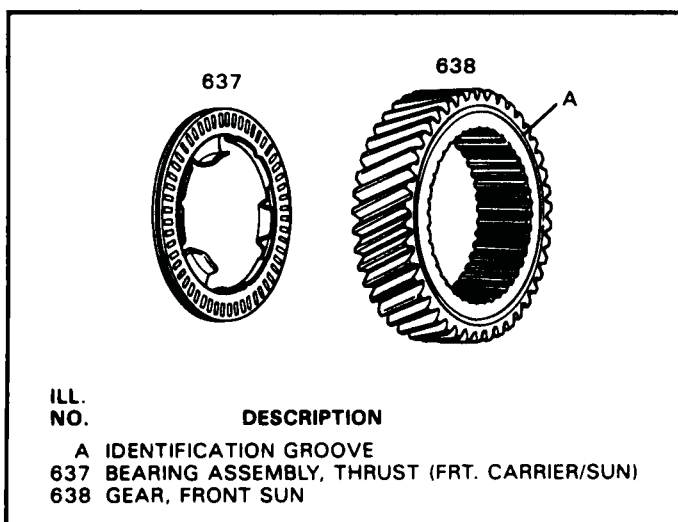

Figure 79
44. Install the front sun gear onto the splines with identification groove against the snap ring. (See Figure 79).
45. Install thrust bearing (637) onto the front sun gear with needle bearings against the gear, as shown in Figure 79.